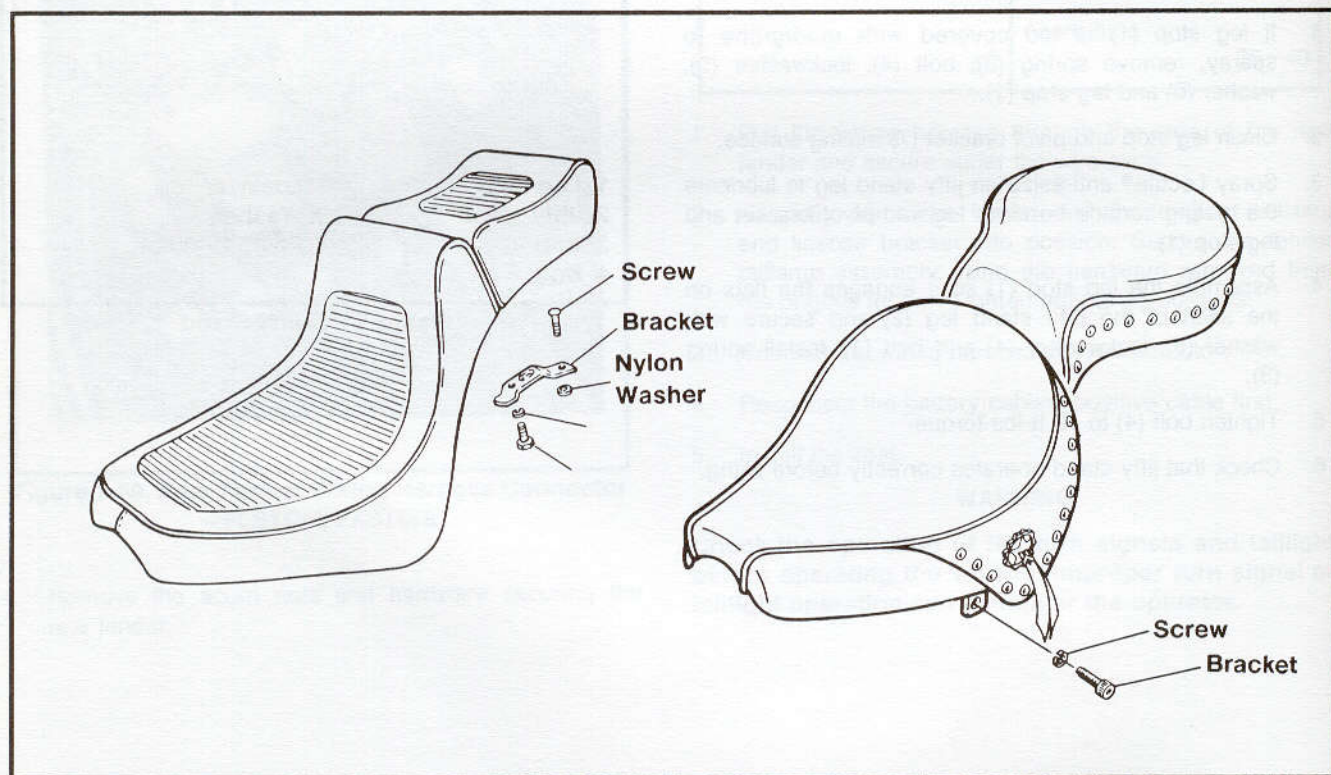

Figure 2-91. Softail Seat (Typical)
1. See Figure 2-91. Remove screw and washer from rear seat bracket. On FLSTC/F, remove side screws.